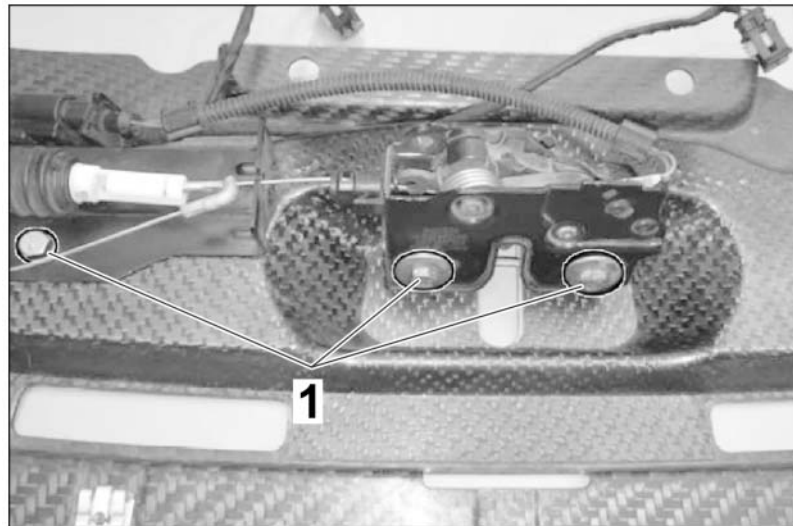

Figure 44
1. – Place the mounting bracket on a suitable surface and remove the lock unit and the complete cable harness, including all retaining clips. Remove the fastening screws \Rightarrow Figure 44 -1- on the lock unit. Remove the cable harness with all retaining clips from the standard mounting bracket.